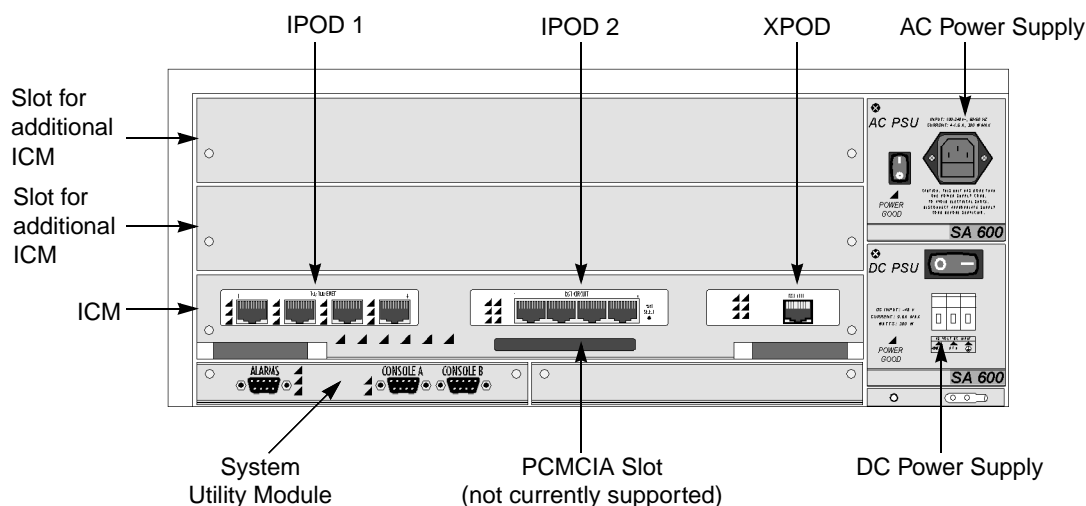

Figure 3-4. SA 600 Typical Hardware Configuration
- The power supplies should be of the correct type. **Figure 3-4** illustrates how AC and DC power connections appear.
Figure 3-4 shows an SA 600 with one AC power supply, one DC power supply, a System Utility Module 100 (SUM), and one ICM; the locations of the IPODs, XPOD, and PCMCIA card slot on the ICM are indicated (PCMCIA cards are not currently supported).
Figure 3-4 shows an SA 1200 with two DC power supplies, two System Utility Module 100s (SUM), and three ICMs.